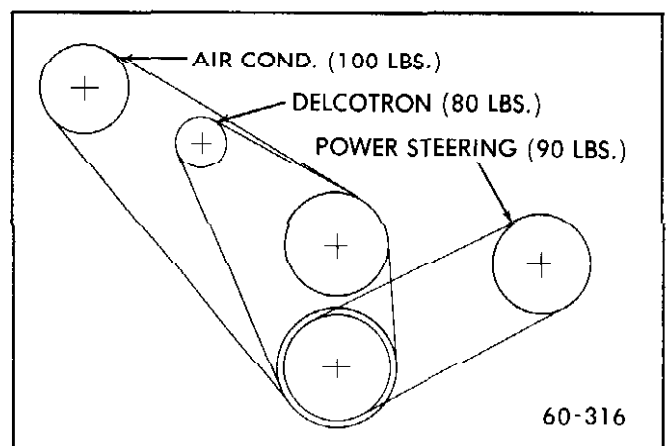

Figure 60-72 Engine Belt Tension Chart
The Delcotron generator must be moved outboard to adjust the fan belt. After the Delcotron generator brace and mounting bolts are securely tightened, the fan belt tension should be checked. See Figure 60-72.
If the power steering oil pump belt is removed it should be adjusted to tension specified, in Figure 60-72.
If the Air Conditioner compressor belt is disturbed it should be adjusted as specified, in Figure 60-72.
3. Install fan pulley or pulleys and fan blade, tighten attaching bolts securely. Install belts and adjust for proper tension. See Figure 60-72.